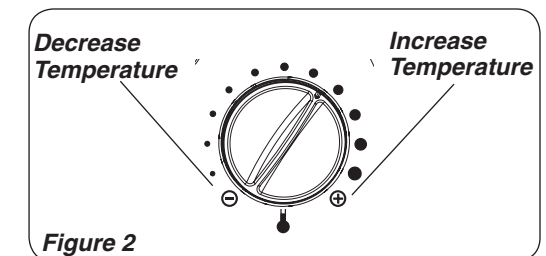

Figure 2
**THERMOSTAT INSTRUCTIONS (Figure 2)**